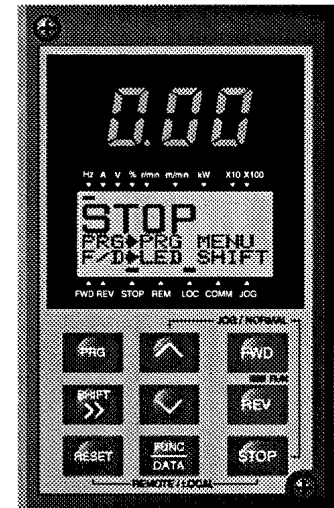

Fig. 3-1-2
- ② Check for short-circuits and ground faults between the terminals and live sections.
- ③ Check for loose terminals, connectors, or screws.
- ④ Check that the motor is separated from mechanical equipment.
- ⑤ Turn off switches before turning power to ensure that the inverter will not start or operate abnormally at power-on.
- ⑥ Check the following after power-on:
- a. Check that no alarm message is displayed on the keypad panel (see Figure 3-1-2).